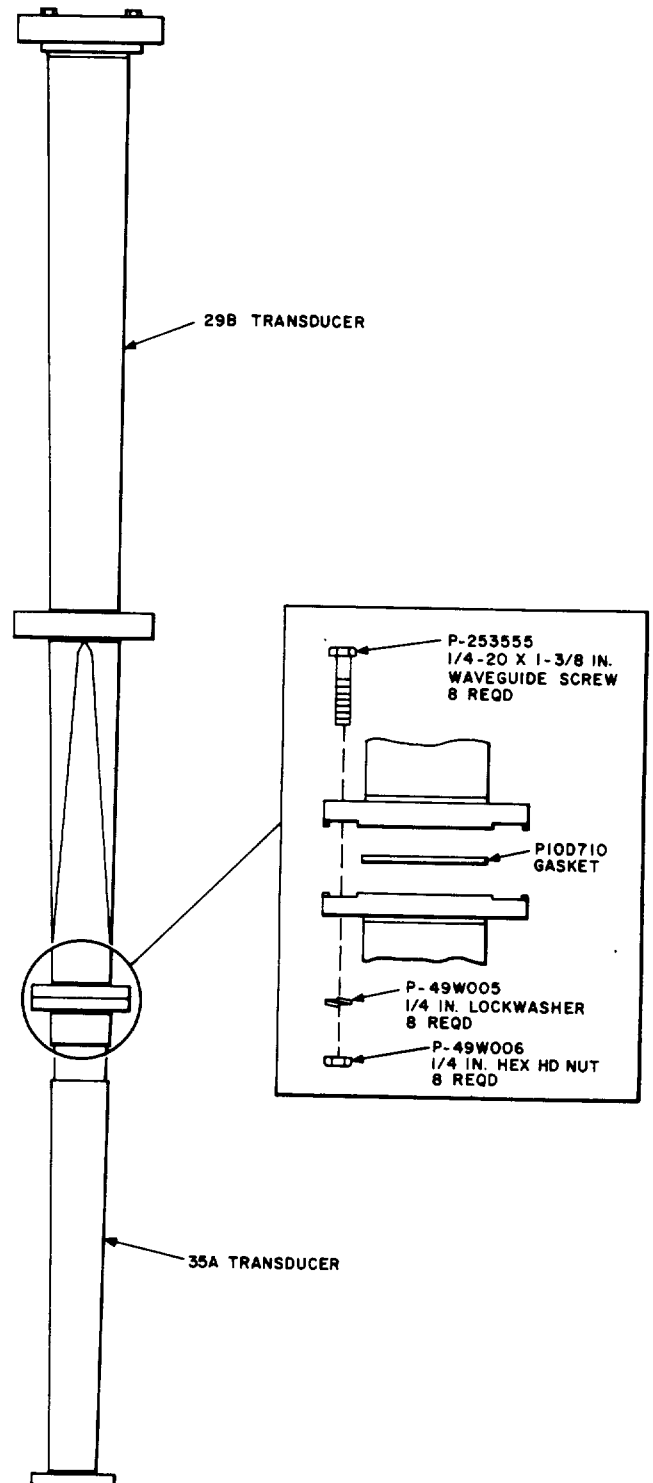

Fig. 17—Installation of 35A to 29B Transducer
**3.01** When there will be no 4-GHz radio system equipped, the 35A transducer is attached directly to the 29B transducer as shown in Fig. 17. All networks after the 35A transducer are installed as described in Part 2.